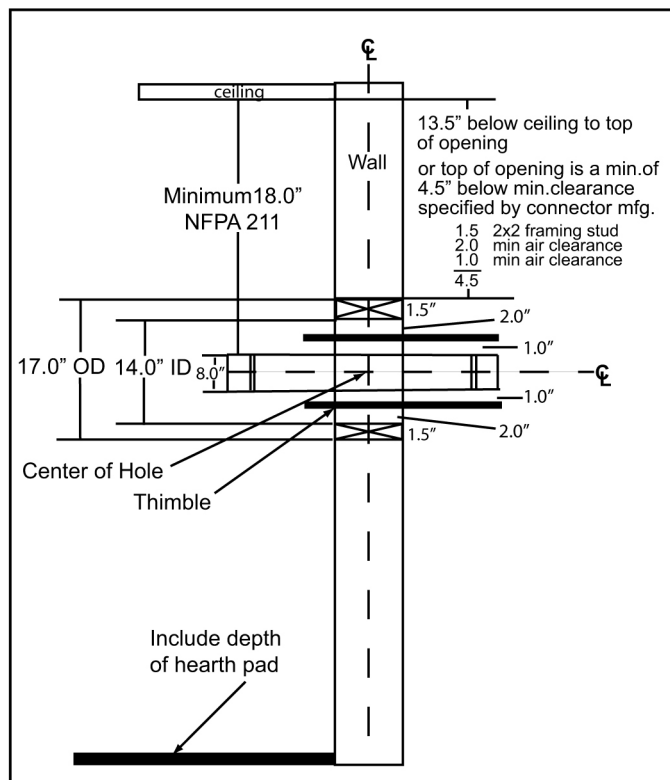

Figure 6.1
- Top of wall opening is a minimum of 1-1/2 inches (4mm) from ceiling or 4-1/2 inches (114mm) below minimum clearance specified by chimney connector manufacturer. NFPA 211 minimum vertical clearance of 18 inches (457mm) from chimney connector and ceiling or minimum recommended by chimney connector manufacturer. Figure 6.1.
1. Open inside wall at proper height for the chimney connector to entry the masonry chimney. Figure 6.1.
3. Construct a 17 inch x 17 inch (42mm x 42mm) outside dimension frame from 2 x 2 framing lumber to fit into wall opening. Inside opening of frame should be no less than 14 inch x 14 inch (56mm x 56mm). Figure 6.1.